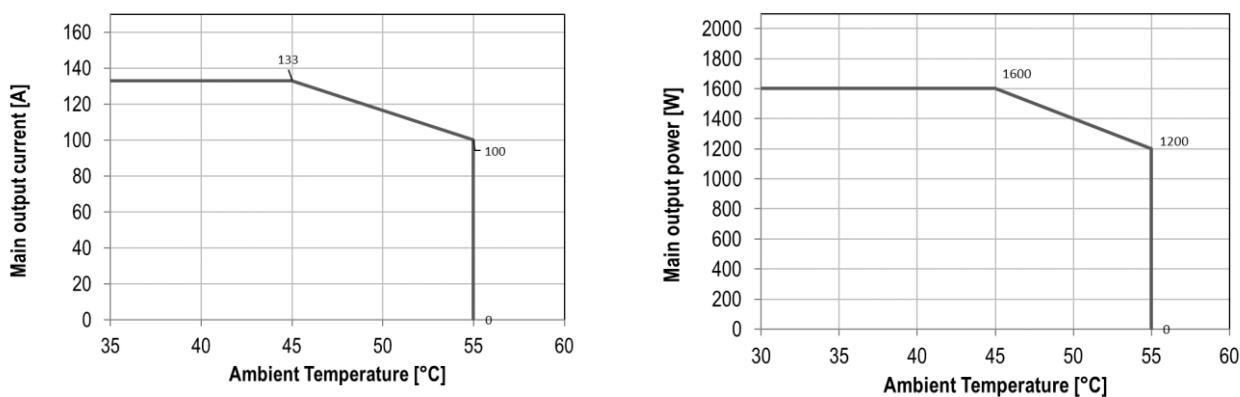

*Figure 21. Maximum current and power levels PET1600-12-074ND*
*Figure 21* illustrates these maximum current and power levels.